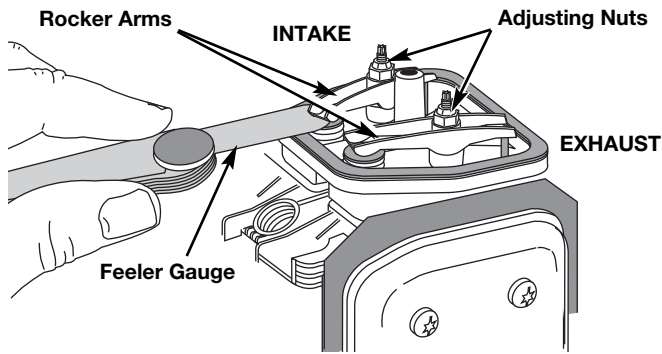

Fig. 39
9. Slide the feeler gauge between the rocker arm and the valve return spring. Measure the clearance between the valve stem and rocker arm (Fig. 39). Measure both the intake and exhaust valves.